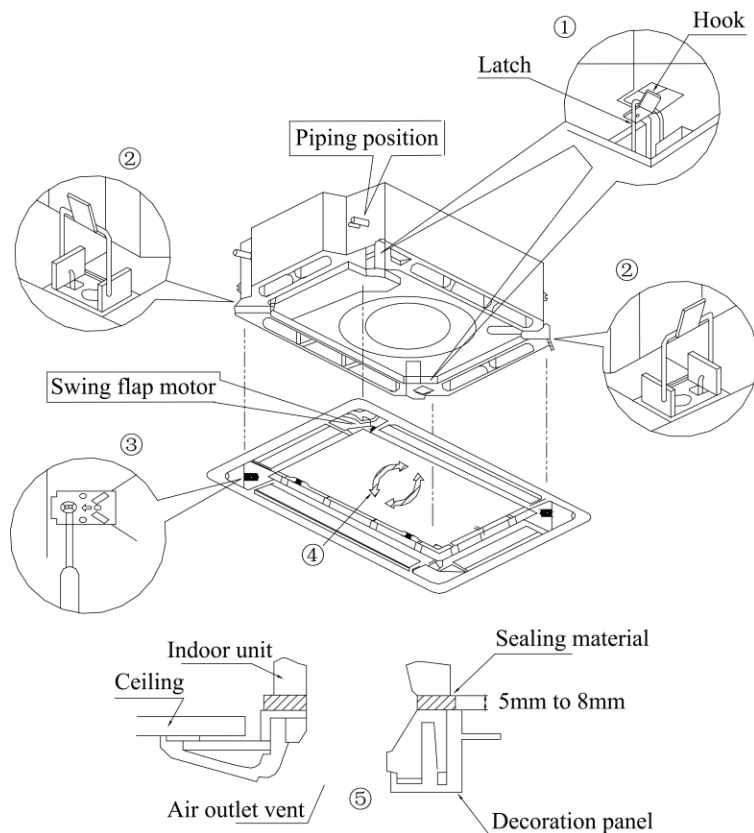

Fig. 2.13
- (1) Set the panel to the indoor unit body by matching the position of the swing flap motor of the panel to the piping position of the panel to the piping position of the indoor unit as shown by Fig. 2.13.
- (2) Install the panel
- ①. Install the panel on the indoor unit temporarily. When install, hang the latch on the hook that is located on the opposite side of the swing flap on the panel of the indoor unit. (2 positions)
- ②. Hang the remaining 2 latches to the hooks on the sides of the indoor unit. (Be
- ③. Screw the 4 hexagon head screws under the latches in about 15mm. (The panel would rise)
- ④. Adjust the panel by turning it toward the direction pointed by the arrow as shown in Fig. 2.13, so that the adjust board connect the ceiling well.
- ⑤. Tighten the screws until the thickness of the sealing material between panel and indoor unit reduced to 5-8mm.